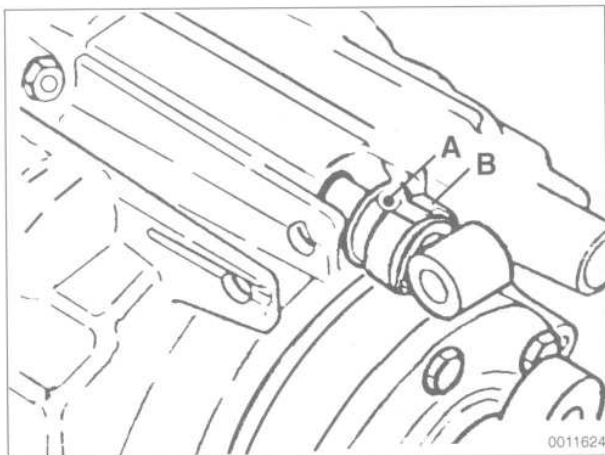

Fig. 3. Selector rod coupling. Slide locking sleeve (B) and push pin (A) through to remove coupling.
- Place transmission in 5th gear. Disconnect selector rod coupling from selector shaft by releasing spring sleeve and pushing out pin. See Fig. 3.